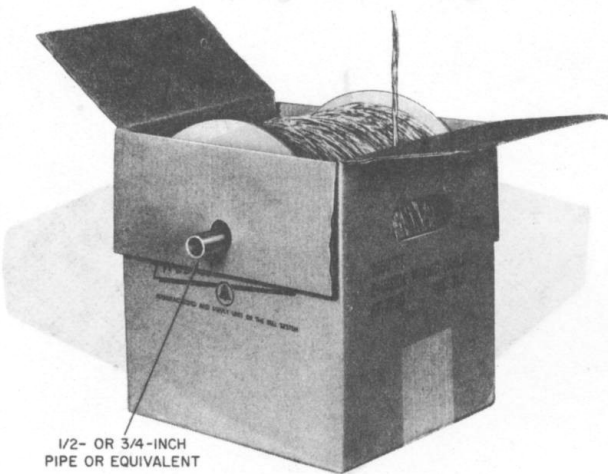

Fig. 4—Carton Used as Reel Support For G Station or E Inside Wiring Cable
3.01 To dispense G station wire from a small reel, open top of carton and fold sides down to match holes in side of carton; then insert pipe or equivalent implement through holes in carton and hole in reel, using the carton as reel support (Fig. 4).